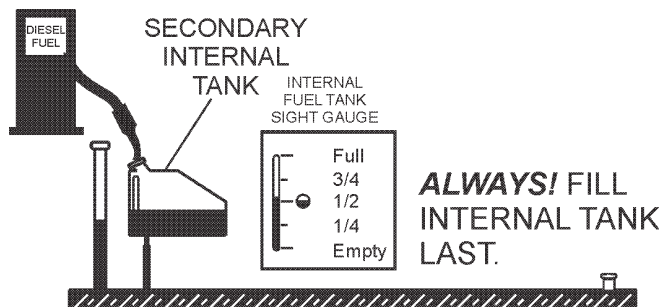

Figure 6. Filling Secondary Internal Fuel Tank
4. Once the trailer tank is full, the **secondary internal tank** can be filled (See Figure 6). Notice how the trailer filler tube level rises when the internal tank is filled.